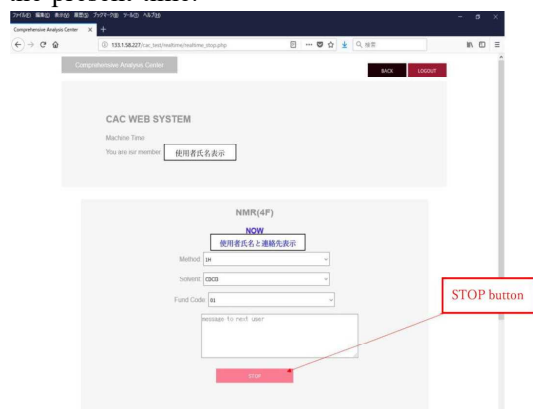
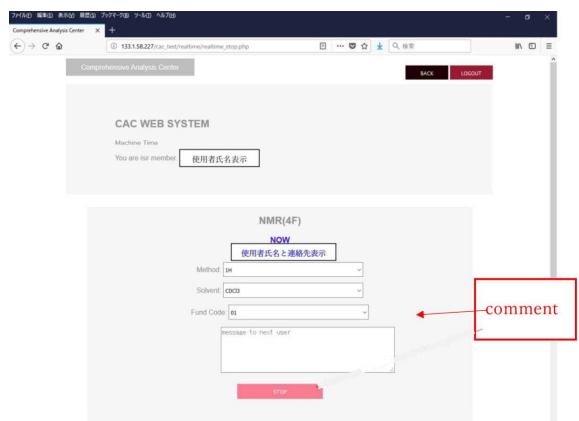
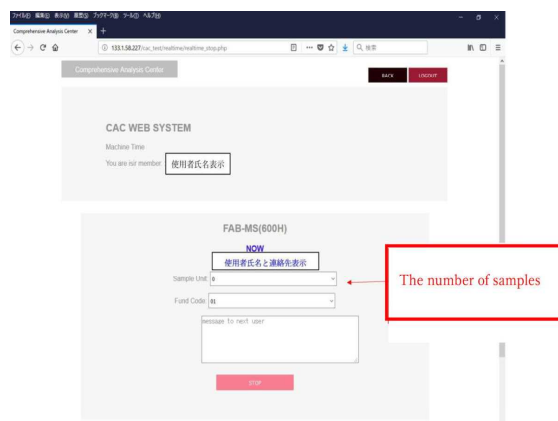

Figure 6
Figure 7
Figure 8
- 3)Click **"Stop"** button when finishing the measurement (Figure 6).Choose Method and Solvent (In case of NMR Figure 7) (number of samples for mass spectrometers, Figure 8) in the following screen. Enter a comment if needed.